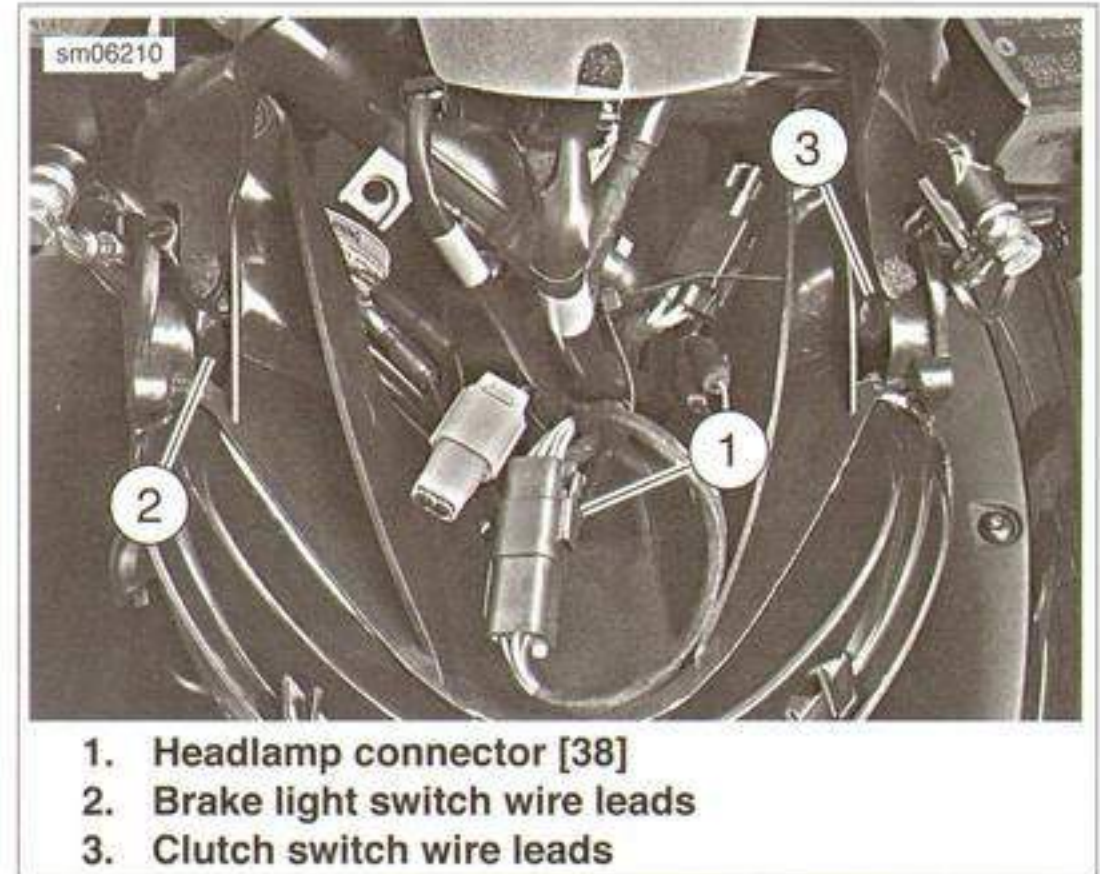

Figure 2-135. Headlamp Assembly
2. See Figure 2-135. Separate the headlamp connector [38] (1) housings.